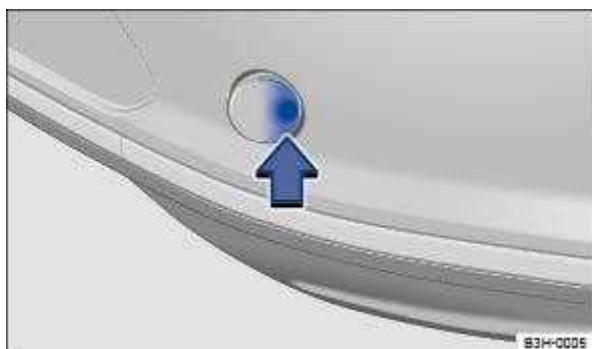

Fig. 178 On the right-hand side of the rear bumper: removing the cover.
- ☐ Push the lower area of the cover ⇒ Fig. 178 in the direction of the arrow to release the cover.